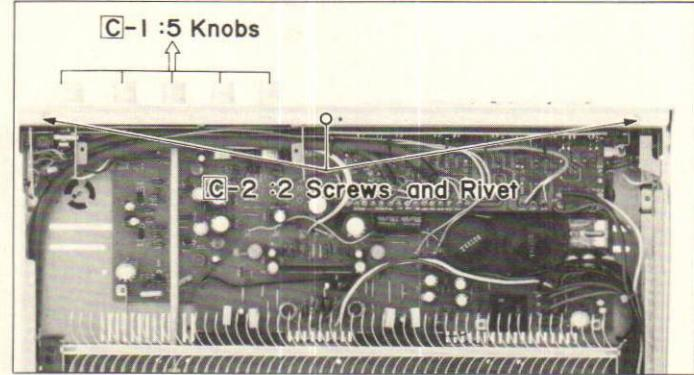

Figure 3-3
1. Pull out the five knobs (Bass control/Treble control/ Function selector/Balance control/Volume control) from the front panel. (Refer to Figure 3-3)